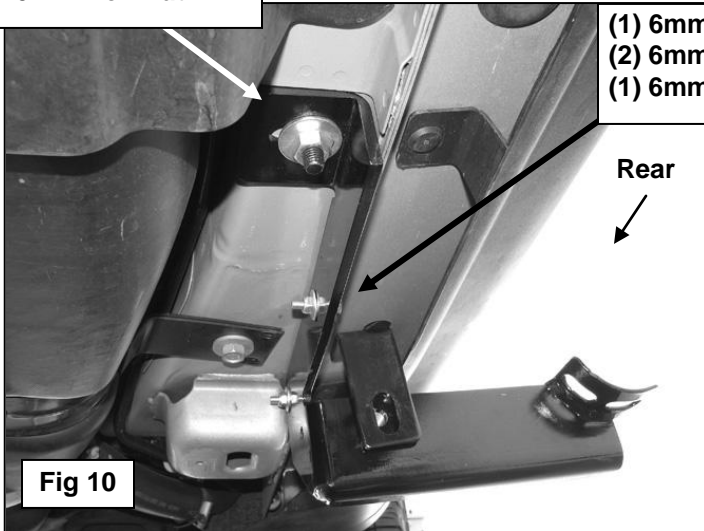

Fig 10
6. Next, select the Driver Side Rear Mounting Bracket. Bolt the Mounting Bracket to the back of the pinch weld with (2) 6mm x 25mm Hex Bolts, (4) 6mm Flat Washers and (2) 6mm Nylon Lock Nuts, **(Figure 10)**. Hang the Bracket from the previously installed forward Bolt Plate with (1) 10mm Flat Washer, (1) 10mm Lock Washer and (1) 10mm Hex Nut, **(Figure 10)**. Line up the hole in the Outer Support Bracket with the hole in the Mounting Bracket. Bolt the Brackets together with (1) 10mm x 30mm Hex Bolt, (2) 10mm Flat Washers, (1) 10mm Lock Washer and (1) 10mm Hex Nut, **(Figures 11 & 13)**.